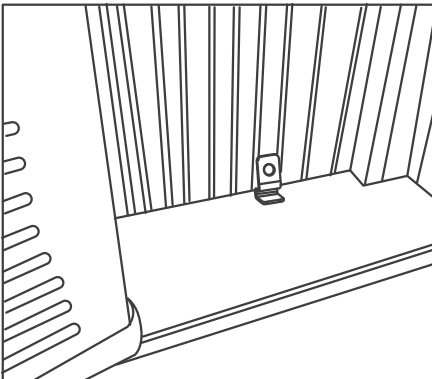
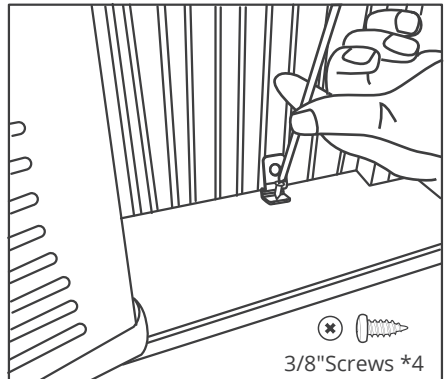

Fig.9
Fig.10
- Place the frame lock between the extended accordion panels and the window sill as show in Fig.9. Screw a 3/4" (19mm) locking screw through the frame lock anc into the window sill. (Fig.10)